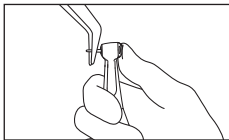

Fig. 7
- ② Remove the bur/cup/brush. (Fig. 7)